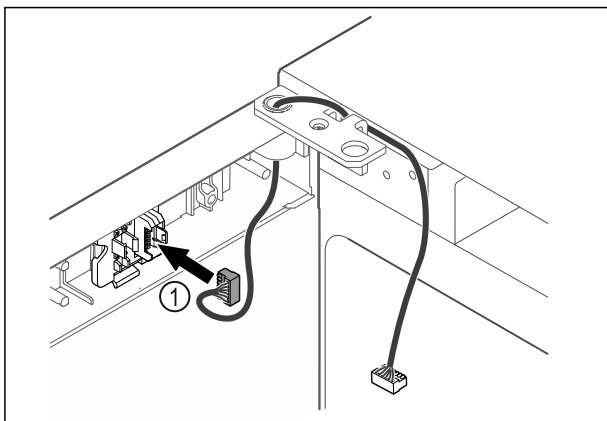

Fig. 64
- ▶ Put the plug Fig. 64 (1) in the plug holder.